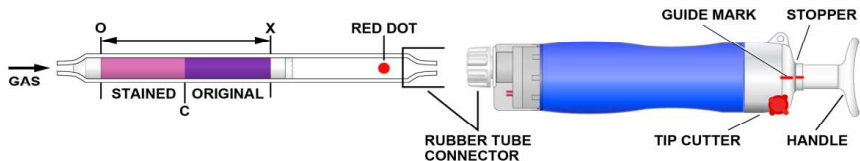

Fig.1
- ② Insert the detector tube into the aspirating pump securely as shown in Fig.1.
- ③ Align the guide marks on the shaft and stopper of the aspirating pump.
- ④ Pull the pump handle at a full stroke until it locks and wait for 5 minutes or until the completion of sampling is confirmed with the flow indicator of the pump (See descriptions about the flow indicator in the instruction manual of the pump).
- ⑤ On completion of sampling, remove the detector tube from the pump and read a concentration with the concentration chart in the following way.
- ⑥ When the concentration is below the scale range, 3 pump strokes can be used to determine concentrations of 100 to 1500 ppm.